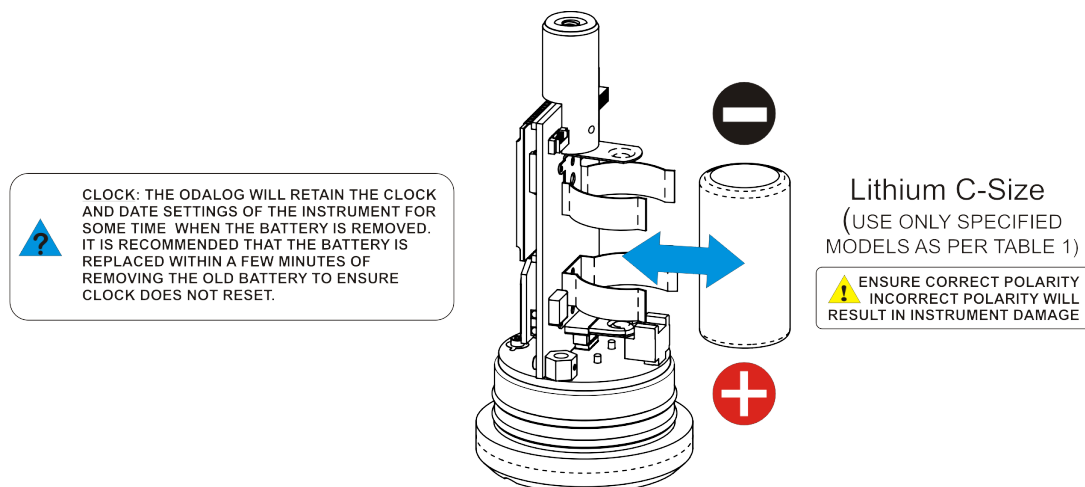

Figure 3 - Removing Battery and Replacing Battery
- Remove and replace battery, observing correct polarity (see Figure 3 below). Take care when inserting the new battery that the positive terminal insulator is not damaged – this insulator may cause the battery to break contact if the insulator tab damaged.